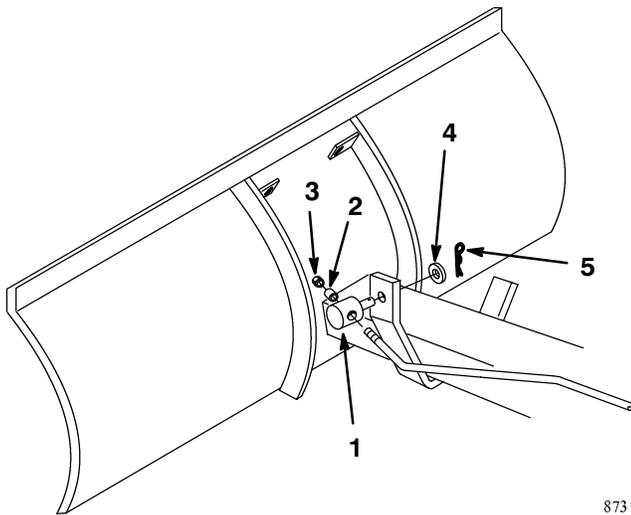

Figure 9
4. Assemble the trunnion and spacer onto the threaded end of the lift rod (Fig. 9). Thread retaining locknut onto the lift rod until approximately 1/4 in. (6 mm) of threads extend out from the locknut.
5. Install the lift rod into the lift lever assembly and trunnion into the frame lift bar (Fig. 9). Secure with washers (1/2 in.) and hairpin cottes.
6. Set the unit on a level surface to adjust the blade height. Set the lift lever in the center position and turn the locknut (Fig. 9) so that the blade is just touching the ground. Adjust the fixed height to personal preference, for your conditions, from there.